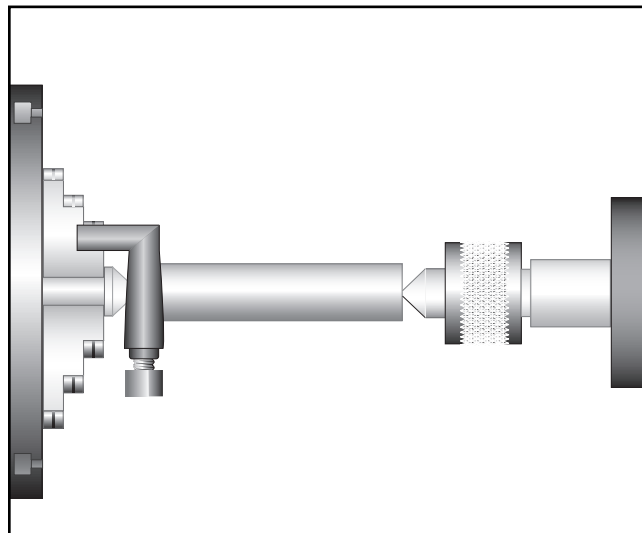

Figure 33. Bar stock mounted on centers.
4. Attach a lathe dog to the bar stock and mount it between the centers. **See Figure 33**.